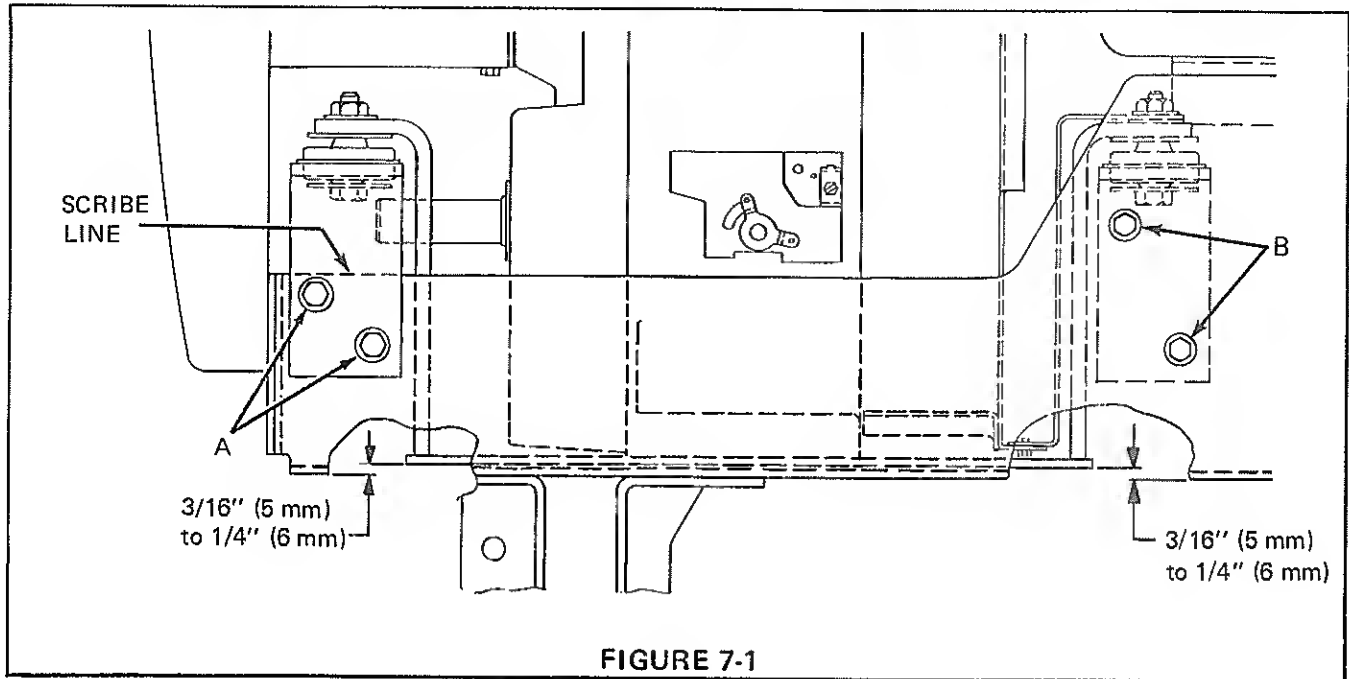

FIGURE 7-1
1. Set engine on rubber mounts in rear, lining up scribe line on front engine supports with frame and insert front four bolts (A). Insert proper engine mount spacers for engine height until a gap of 3/16 (5 mm) to 1/4\" (6 mm) is reached between the bottom edge of the engine support and bottom edge of the side frame. This dimension should be held at the front and rear of the engine support. See Figure 7-1. Secure engine supports to frame, holding dimension given above.